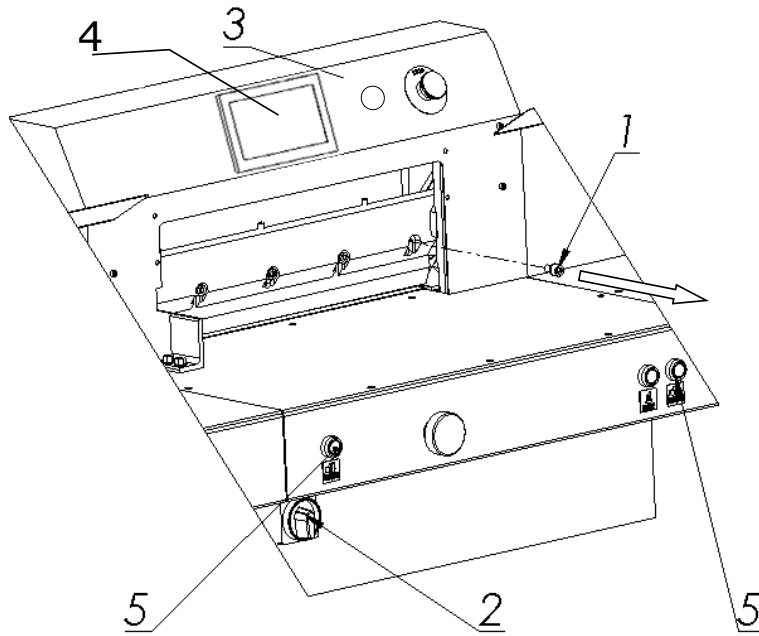

Figure.22
Unscrew and remove the first fastening screw, 1, from the right side of the cutter bar (Fig. 22).
8.1.2.8 Press the "Change knife" function on the touchscreen 3 (Fig.22)
8.1.2.21 Switch on the power supply to the control system by pressing the green push button 3 (fig.22).